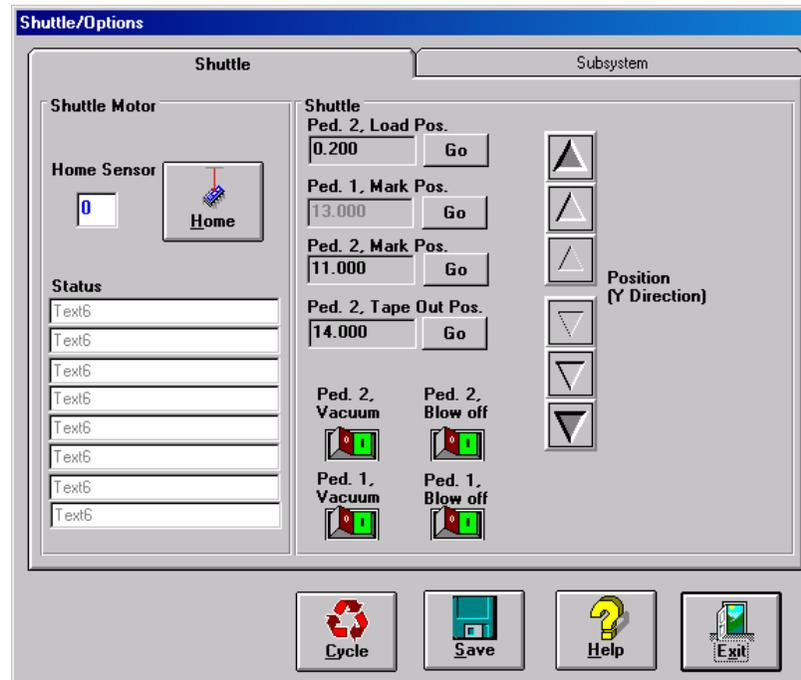

Figure 6-110—Test shuttle transfer assembly
- 6c) Click **Go** next to **Ped 2 Load Pos**. Click **Go** next to **Ped 2 Mark Pos**. Click **Go** next to **Ped 2 Tape Out Pos**. See *Figure 6-110*.